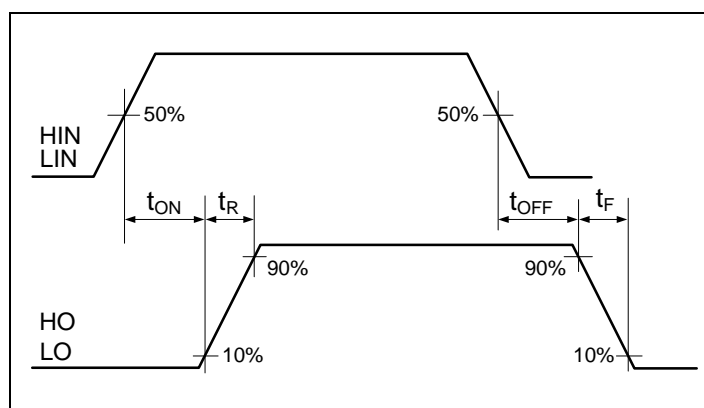
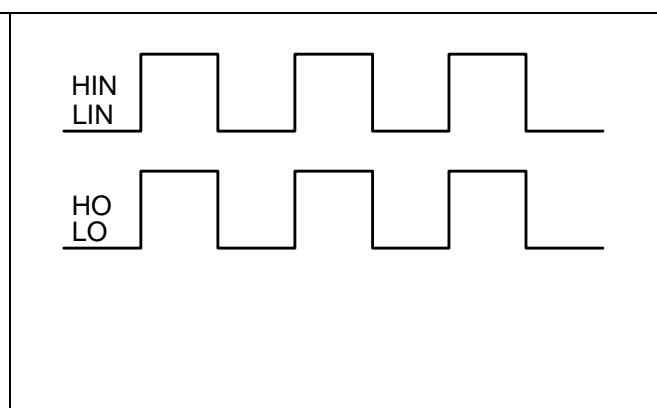

Figure 6 Switching timing diagram
Figure 7 Input/output logic diagram
The relationships between the input and output signals of the 2ED2181 (4) S06F (J) are illustrated below in Figure 6 and Figure 7. From these figures, we can see the definitions of several timing parameters (i.e. t_{ON} , t_{OFF} , t_R , and t_F) associated with this device.